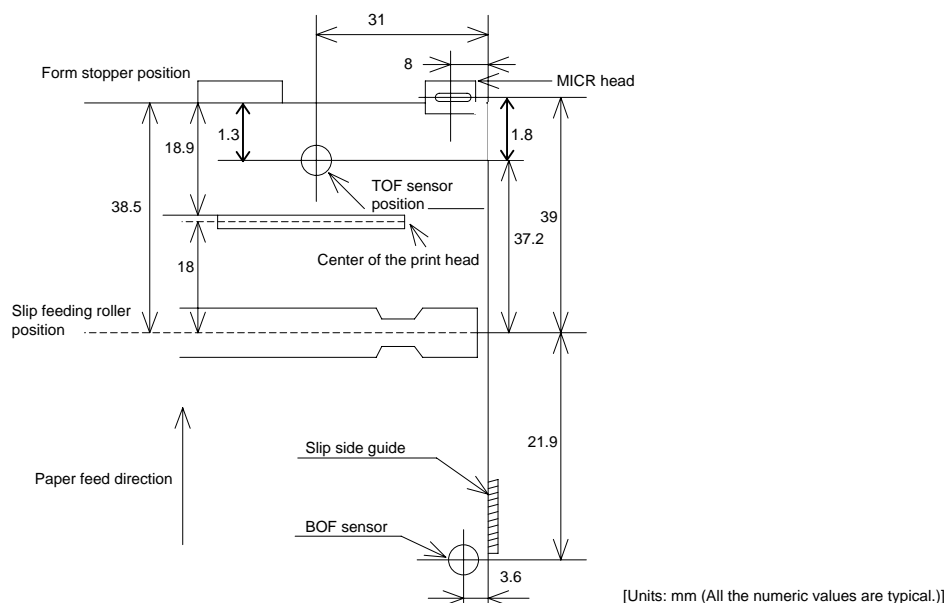

Figure 1.1.4 Slip Sensor Positions
- Since the slip insertion sensor uses a photo sensor, do not use paper that has holes at the sensor position, or is translucent (refer to Figure 1.1.4).